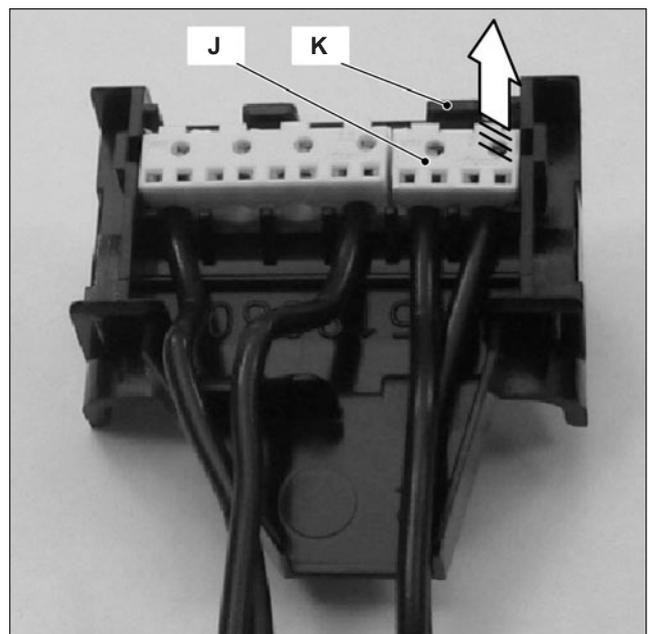

Figure 7.7
- 4 Remove the capacitor connection block J freeing it from the hook K and pulling it as indicated by the arrow (Figure 7.7).